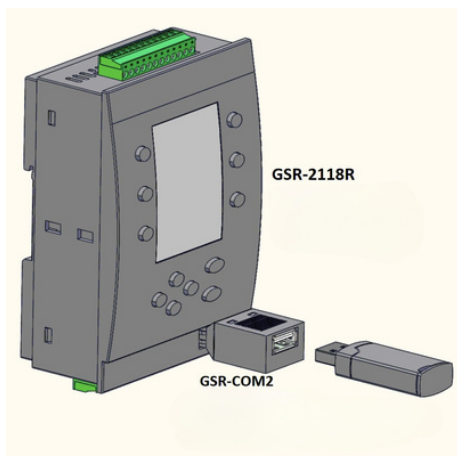

Figure 15: Utilization of GSR-COM2
- As illustrated in Figure 15, the GSR-COM2 communication intermediate device is inserted into the PCOM Port socket, with the tabs on the lateral surfaces engaging the socket.